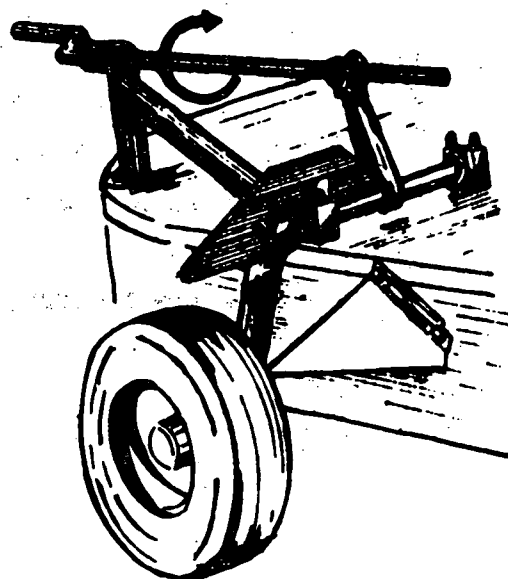

Fig. 2
- a) Adjust the cutting height by actuating the control mechanism (Fig. 2).